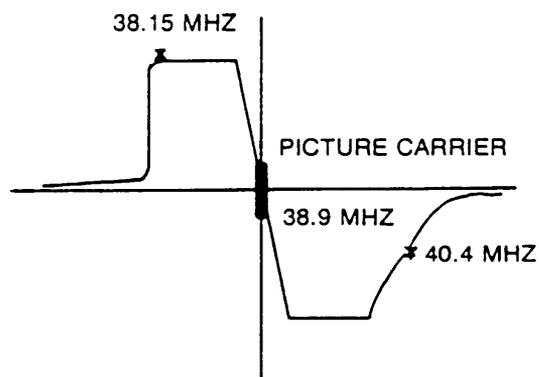

Fig 3. AFT Response Curve
- 4) Adjust L202 to balance as shown in Fig 3.